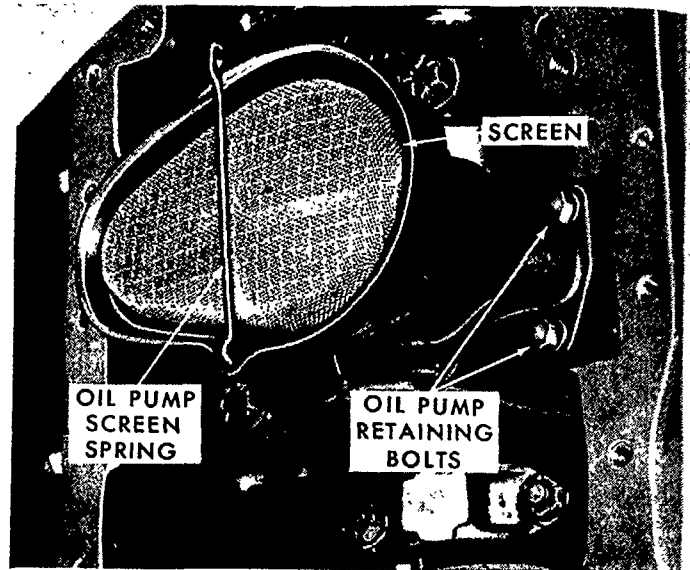

Figure 39
2. Remove the oil pump retaining bolts, Figure 39, and remove the oil pump and gasket. When the oil pump is removed, the intermediate shaft is loose and should be removed.
1. Remove the oil pump screen spring and pump screen, Figure 39.
2. Place the intermediate shaft on the rotor shaft and using a new gasket install the oil pump assembly on the cylinder block, Figure 39. Install the two mounting bolts and lock washers and tighten to the specified torque, page 68.